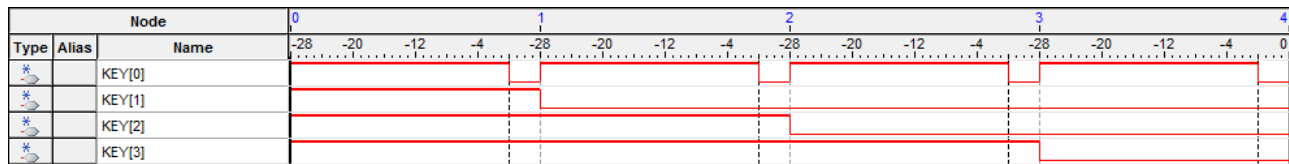

Figure 24. Possible waveforms that could result when using the Segmented Acquisition mode.
5. Go back to the SignalTap II window and click **Processing > Run Analysis**. Now, press and release KEY[0], and in between clicks change the values of the other 3 keys. After you have done this 4 times, the values in the buffer will be displayed in the data window, and this will display the values that the 4 keys had at around each trigger. A possible waveform is presented in Figure 24. This resulted from the user pressing and holding one more key between each click of KEY[0].